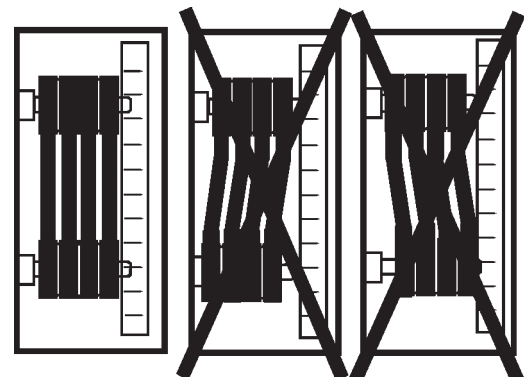

Figure 17. V-Belt Parallelism
2. Check uniform parallelism (Figure 17) of V-belts and pulley (sheaves). Use a straight edge or machinists's square against both pulleys and adjust both pulleys until equally aligned.